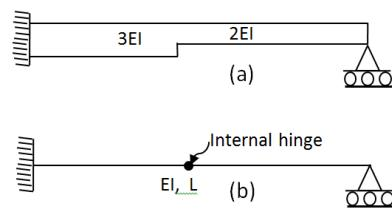

Fig. 4
c) Determine the degree of static indeterminacy and kinematic indeterminacy of the structural members shown in Fig. 4.